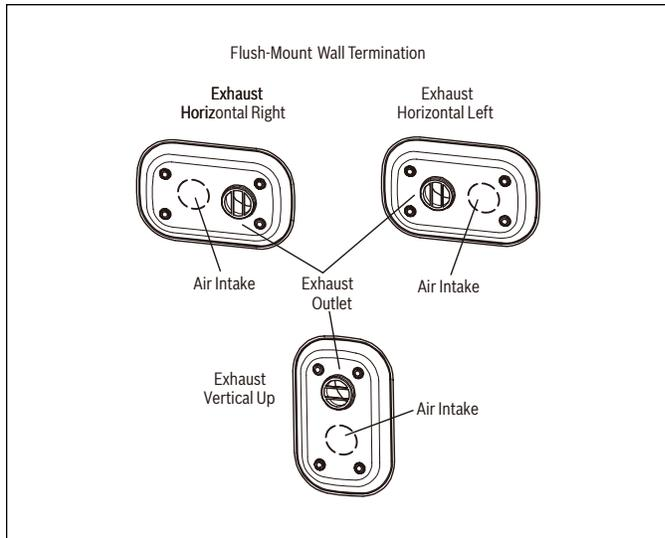

Figure 36
2. Exhaust vent pipe can be located horizontally left, right, or vertically up from the air intake pipe. See Fig.36.